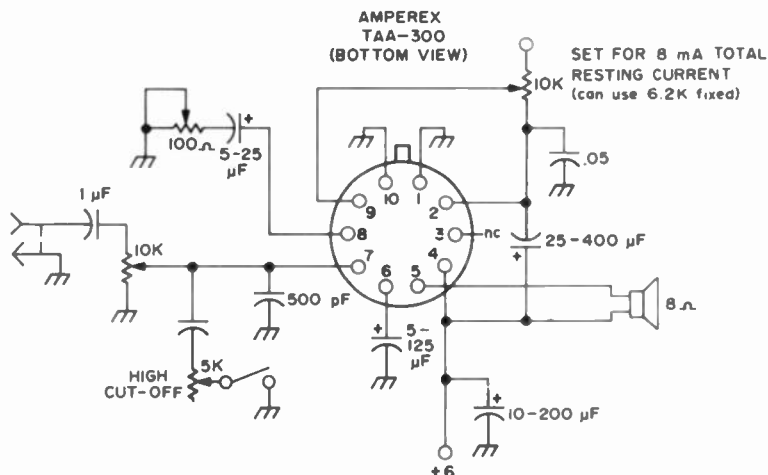

Fig. 7-13. Audio amplifier IC.
**Audio Amplification.** The audio section is an Amperex TAA-300 1W “baby-hi-fi” IC. There are about 11 transistors in that one little can, and it is flat to 1 dB from 25 Hz to 25 kHz! Get a halfway decent 8Ω speaker to go with it, because it’s worth it. Figure 7-13 shows how to connect it up.